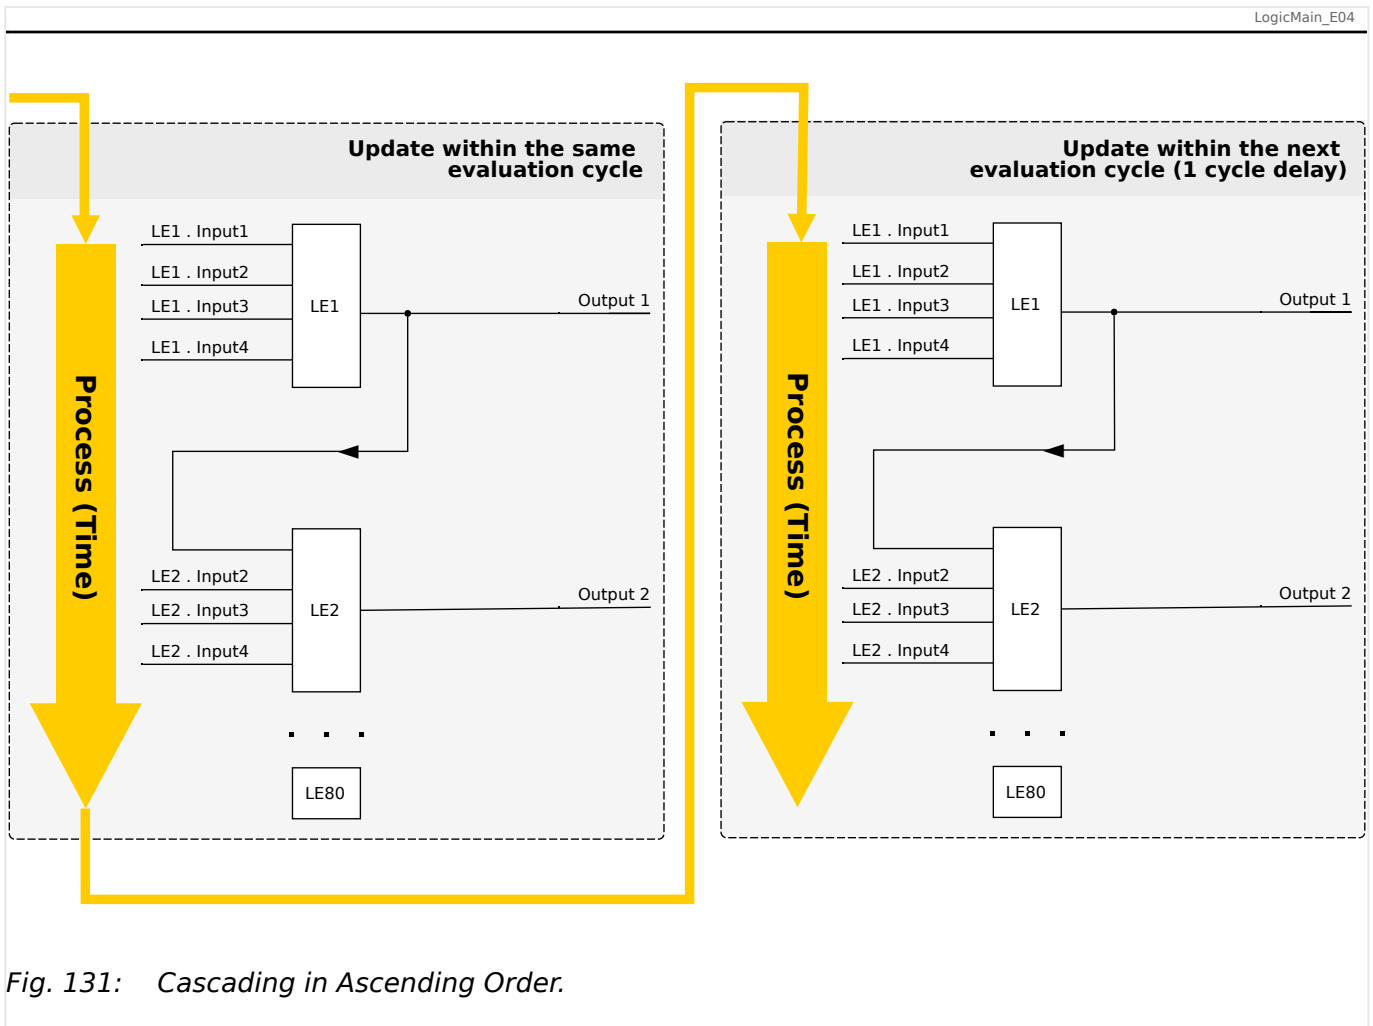
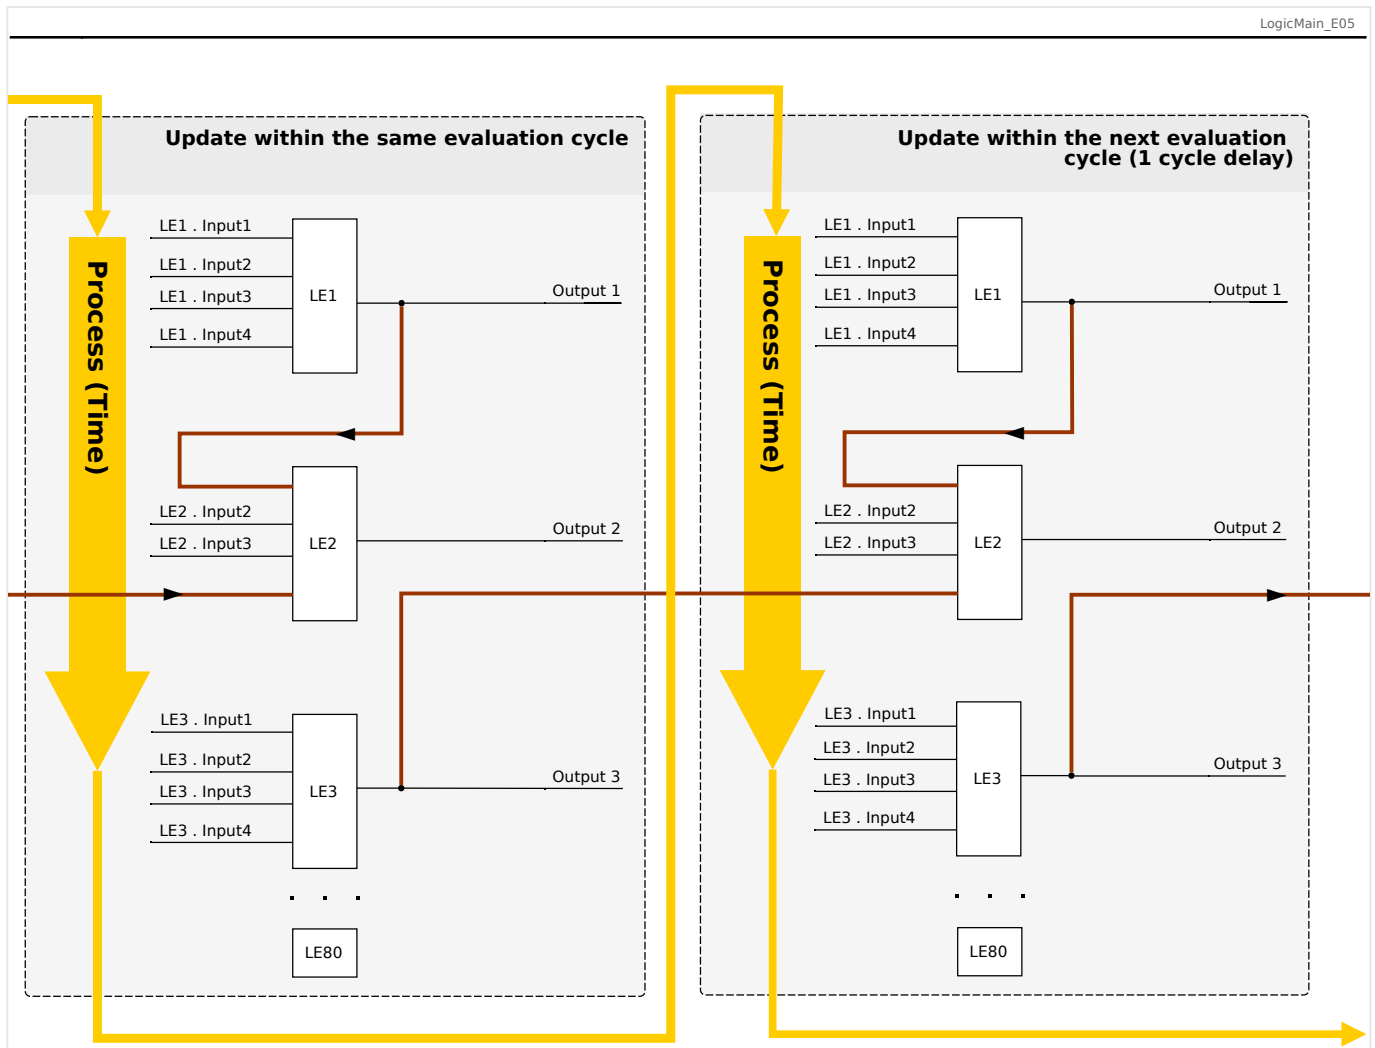

Fig. 131: Cascading in Ascending Order.
Fig. 132: Cascading in Descending Order.
- **Ascending** sequence means that some output is fed into the input of a logic equation with **higher** number. For instance, diagram  Fig. 131 below shows an example where the result of Logic Equation LE1 is used as an input of Logic Equation LE2.
- **Descending** sequence means that some output is fed into the input of a logic equation with **lower** number. For instance, diagram  Fig. 132 shows an example where the result of Logic Equation LE3 is used as an input of Logic Equation LE2.
Both ascending and descending sequences may be used and combined one with the other, with no immediate difference. However, due to the evaluation of all equations in ascending order the actual run-time values that are fed in at the input of an equation will have a different “age”, as is shown in  Fig. 131 and  Fig. 132 below.
In the example shown in Fig. 132 above, “Logic Equation 2” uses the output states of two other equations, “Logic Equation 1” and “Logic Equation 3”. The result of “Logic Equation 1” is used in ascending order and has therefore been evaluated within the same process cycle. The result of “Logic Equation 3” is used in descending order and has therefore been evaluated in the previous process cycle.